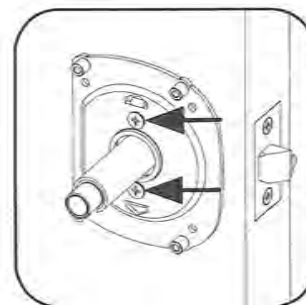

Figure 7
2.4: Install and tighten the two 1" (25mm) oval head machine screws into the plate. These screws connect the Mounting Plate to the included Bored Cylindrical Hardware located inside the door. (**Fig. 7**)